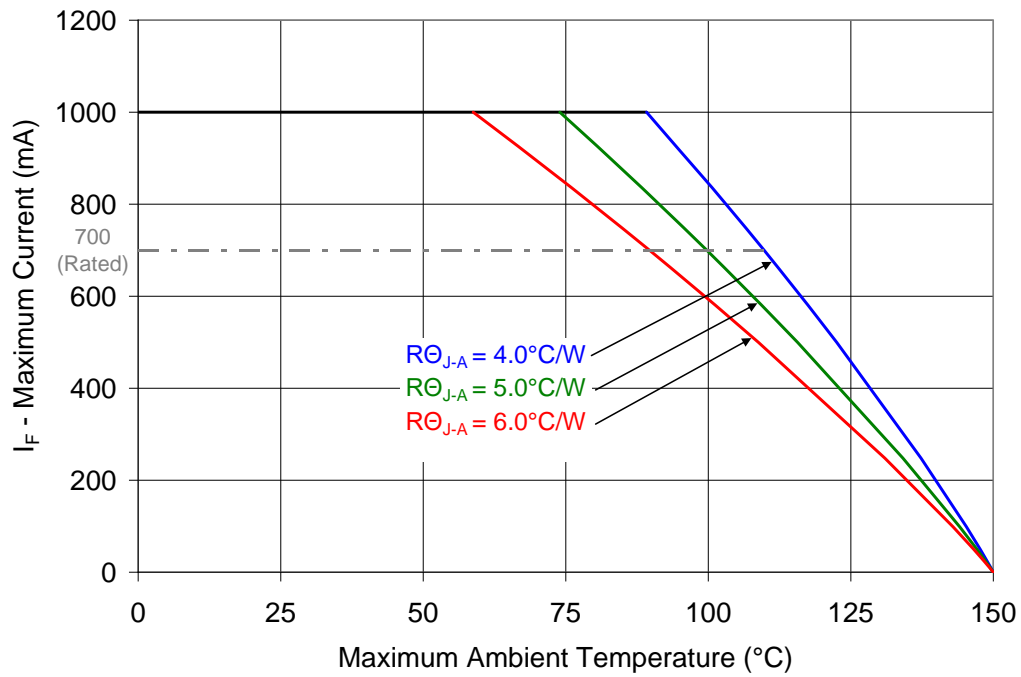

Figure 10: Maximum forward current vs. ambient temperature based on $T_{J(MAX)} = 150^{\circ}\text{C}$.
- Maximum DC forward current (per die) is determined by the overall thermal resistance and ambient temperature. Follow the curves in Figure 10 for current derating.
Notes for Figure 10: